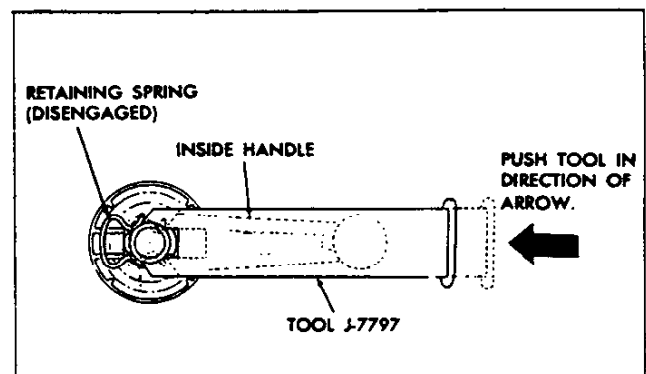

Fig. 24—Removing Window Crank With J-7797
DOOR LOCK AND REMOTE CONTROLS (Fig. 24)**Removal**
3. Position window all the way up to line up two (2) sash screws through access holes.
4. Remove two (2) sash screws on horizontal guide channel while holding nut with other hand (fig. 24).
5. Disengage stop by removing one (1) Phillips head screw at top of channel assembly.